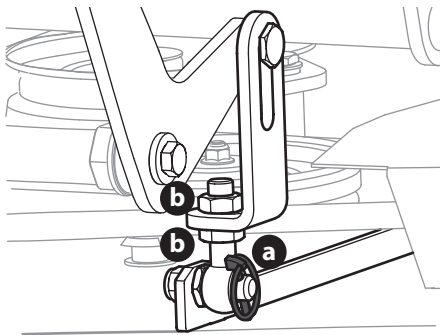

Fig. 45
3. Adjust the eyebolt (a) at the left front of the deck so that the blade-to-ground height at the right outside blade tip matches that of the left outside blade tip. This is done by loosening the jam nuts (b) on the eyebolt (a) and tightening the upper jam nut (b) to raise the deck and loosening the jam nut (b) to lower the deck. The right outer blade tip height is fixed by the right, front eyebolt (a) so you must adjust the left outer tip to match it (Fig. 45).
4. Once the proper adjustment is made, re-tighten the jam nuts (b) (Fig. 45).
3. Loosen the jam nuts (b) at the rear left and right of the deck eyebolts (a) (Fig. 45).
4. Start at the rear right to raise the rear of the deck, tighten the upper jam nut (b) to raise the deck or loosen the upper jam nut (b) to lower the rear of the deck (Fig. 45).
5. Adjust the jam nut (b) at the rear left to take the "slack" out of the threaded rod (Fig. 45).
6. Tighten both lower jam nuts (b) to secure the deck adjustment (Fig. 45).
7. The final adjustment would be to take the "slack" out of the left rear linkage if the rear of the deck was raised by adjusting the jam nuts (b) on the eyebolt (a). Loosen the jam nuts (b) and tighten the upper jam nut (b) to remove "slack" (Fig. 45).
8. In many cases it will be necessary to adjust deck height using both eyebolt (a) adjustments and pitch adjustment to achieve the correct blade-to-ground heights. If you remember that the front right blade tip adjustment is fixed and you level to that height, adjusting the decks will be simplified (Fig. 45).